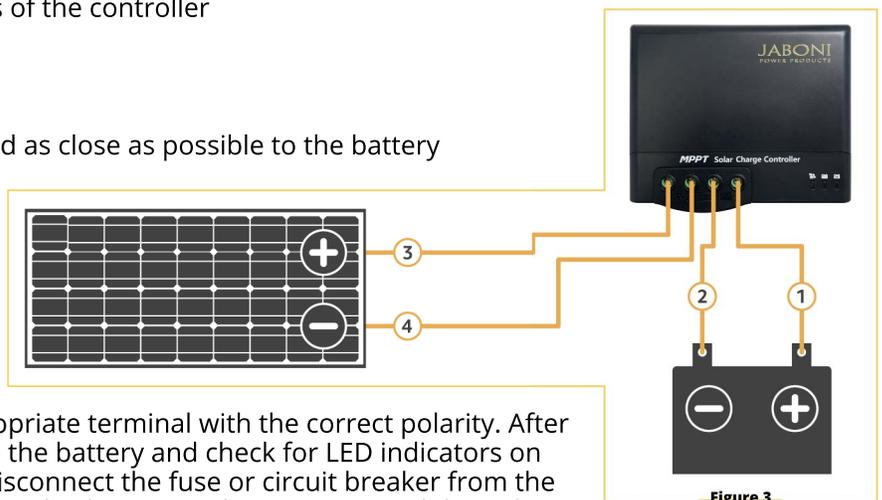

Figure 3
Step 4: Wiring (continued). Follow diagram steps in **Figure 3**.